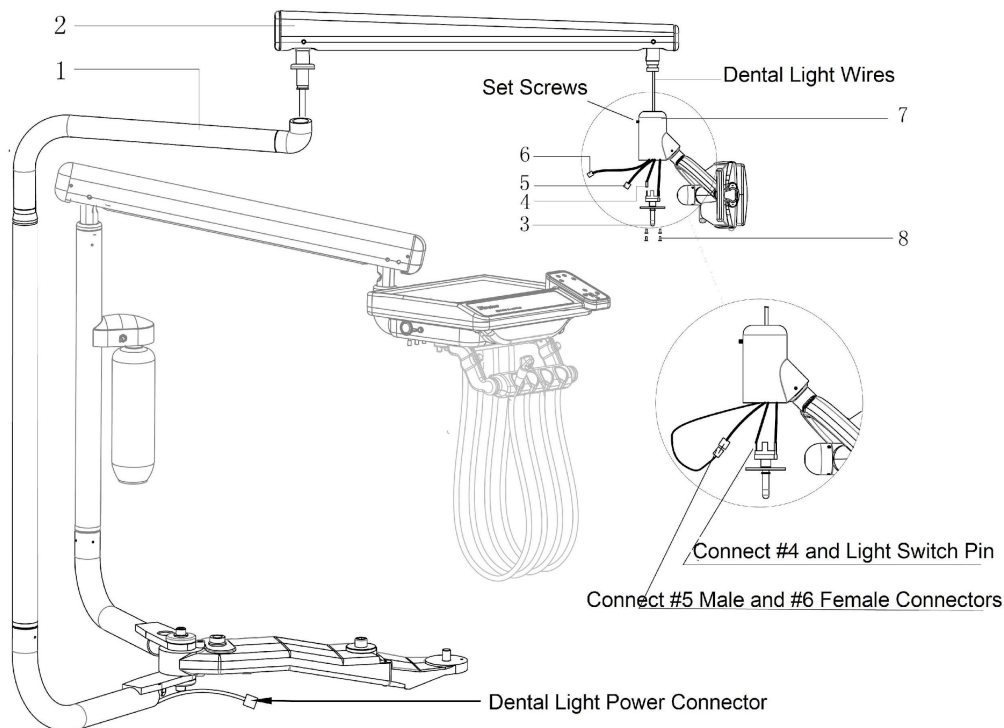

Figure 10. Dental Light and Flex Arm Installation
1. While holding up the flex arm ②, pull all the wires through the inside of the rotating arm ①, and light post to the dental light elbow arm's opening, then insert the flex arm ② into the rotating arm ①. (See Figure 10)
2. Remove the four light switch screws ⑧ and save them for installation later.
3. Pull all the wires from the flex arm ② into the dental light wiring compartment.
5. Install the set screw ⑦ and adjust it for smooth rotation movement on the dental light. The goal is to allow easy relocation of the dental light while having it lock in the final position.
7. Connect dental light male ⑤ and female ⑥ connectors together as shown on Figure 10.
8. Connect electrical wire ④ to the dental light on/off switch pin ③.
9. Reinstall four light switch screws ⑧ to the switch housing.